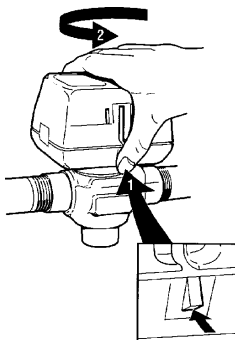

Figure 3: Actuator Head Removal.
4. The actuator head is automatically latched to the valve. To remove, press up on the latch mechanism located directly below the red manual open lever with thumb (See **Figure 3** below). Simultaneously press the actuator down towards the body with moderate hand force and turn the actuator counter-clockwise by 1/8 turn (45 degrees). Lift the actuator off the valve body.
5. Install the new actuator by reversing the process in (4).